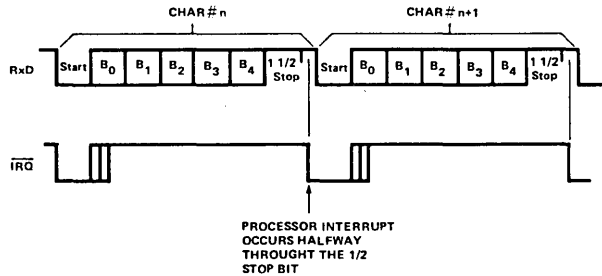

Figure 4-11. TIMING WITH 1-1/2 STOP BITS
4.1.11 Timing with 1-1/2 Stop Bits (Figure 4-11)